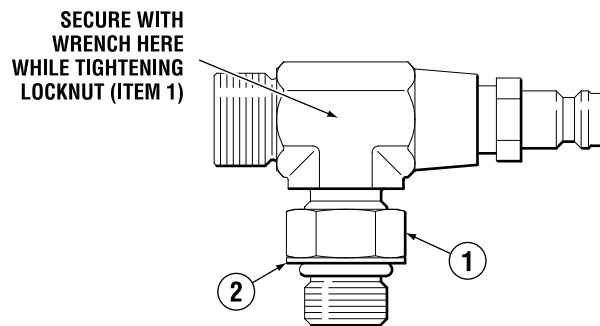

Figure 5-23. Re-orientable hose fitting.
1. Back off lock nut (item 1 in figure 5-23) counter-clockwise, until it stops.
2. Thread fitting into the cylinder port until the fitting washer (item 2) contacts the face of the cylinder port. Tighten hand tight. **DO NOT USE A WRENCH.**